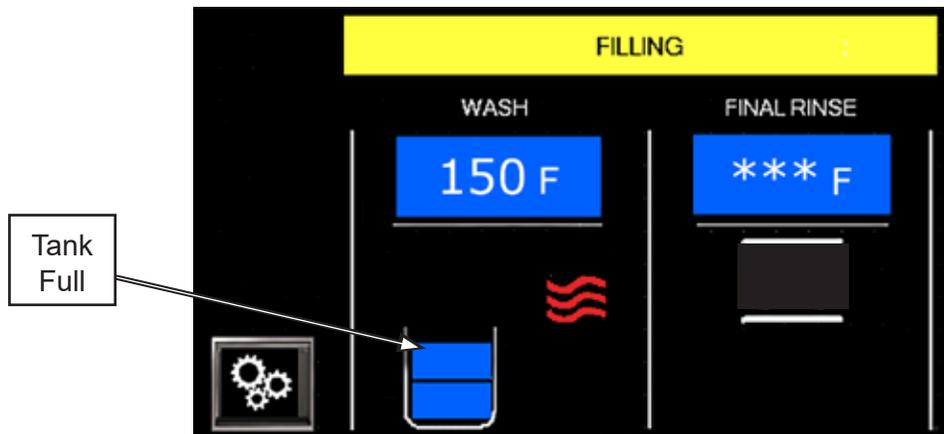

Fig. 16 - Tank full when two blue blocks appear
- 5** Filling is complete when two blue blocks appear in tank. The word "Filling" and the final rinse spray icon disappear, Fig.16.